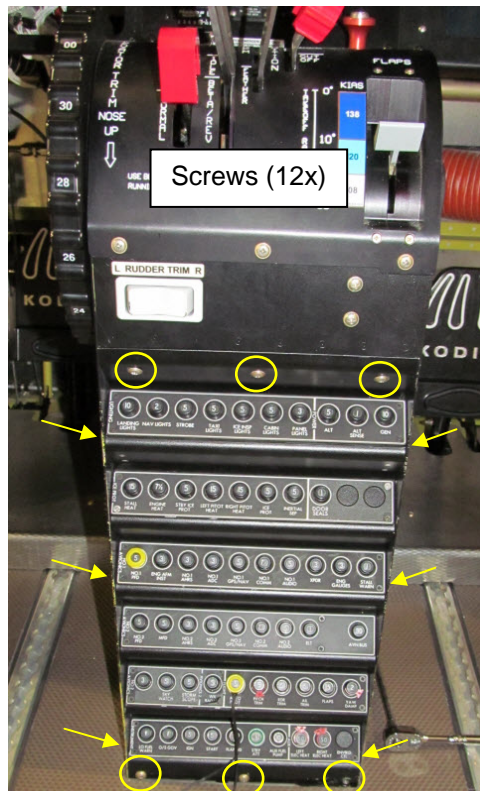

Figure 5-1: Circuit Breaker Panel Screws
2. Remove the twelve (12) screws securing the circuit breaker panel to the control pedestal. See **Figure 5-1**.